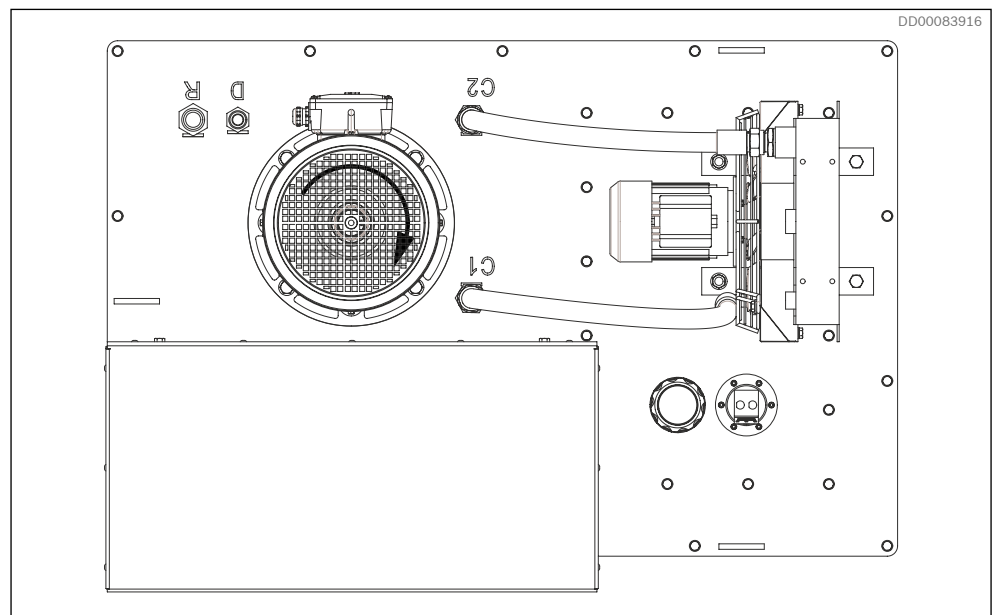

Fig. 28: Electric motor rotation direction
- ▶ Check the rotation direction of the new electric motor. Correct direction is clockwise viewed from fan side of the motor. (See Fig. 28)